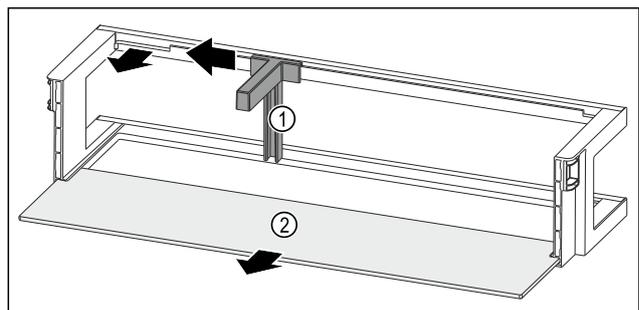

Fig. 86 Door rack with bottle holder and shelf
- ▶ Slide the bottle holder Fig. 86 (1) to the side as far as the recess.
- ▶ Remove the bottle holder Fig. 86 (1).
- ▶ Remove the shelf Fig. 86 (2).